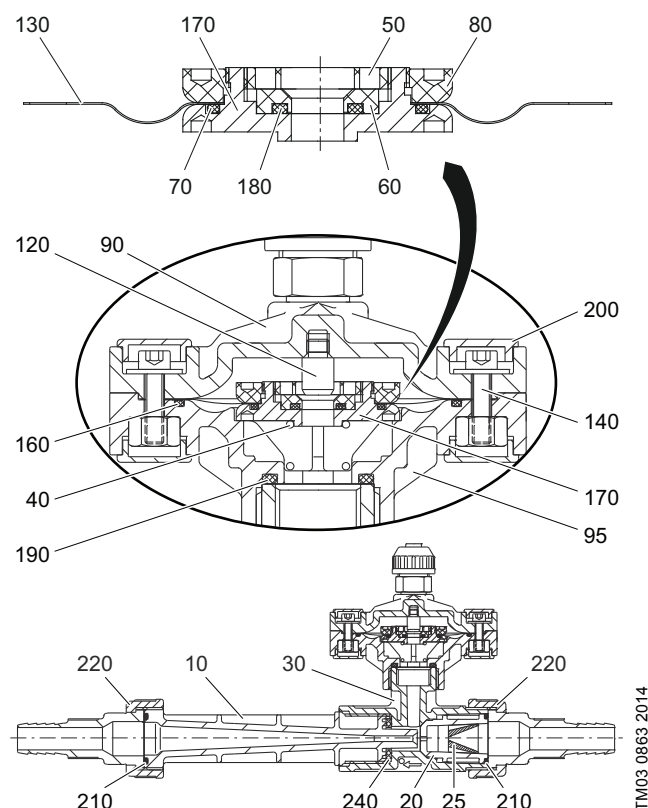
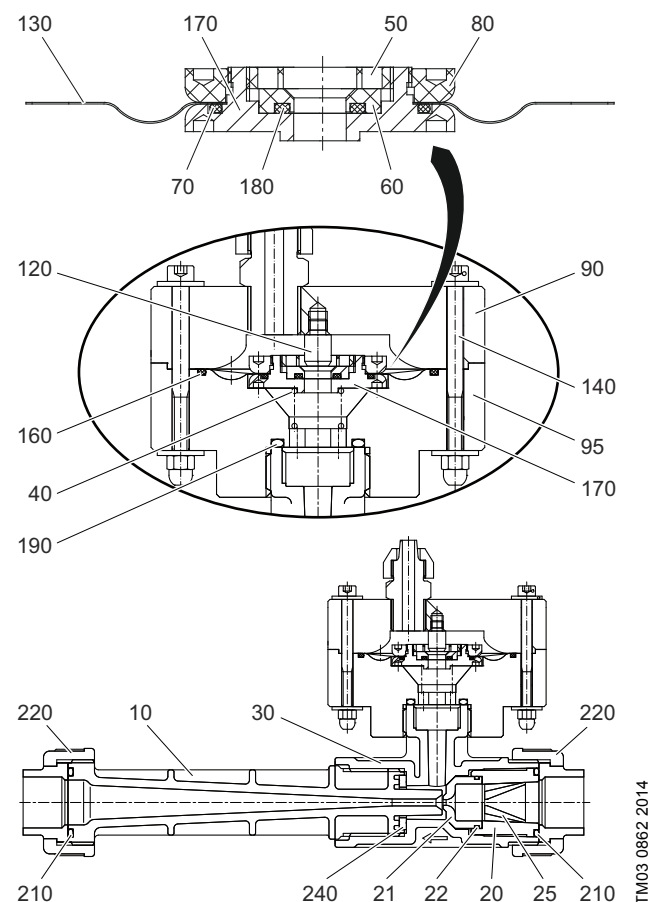

Fig. 6 Sectional drawing
Fig. 7 Sectional drawing
The following steps refer to figs. 6 and 7. For injectors with counterpressure range 0 to 7 bar see fig. 6, for injectors with counterpressure range 7 to 10 bar see fig. 7.
8. Screw in new piston (120) by hand.
9. Replace O-ring (160).
10. Replace O-ring (70).
11. Insert new seat (60) with new O-ring (180).
12. Screw in new screw ring (50) and tighten it carefully with an appropriate face spanner.
13. Fit the new diaphragm (130) at diaphragm disc (170).
- Make sure, that the orientation of the diaphragm is as shown in the respective figure. See fig. 6 or fig. 7.
14. Screw in diaphragm ring (80) and tighten it carefully with an appropriate face spanner.
15. Carefully retighten screw ring (50).
16. Slide diaphragm disc (170) onto piston (120).
- Diaphragm ring (80) must point to top part (90).
- Turn diaphragm disc (170) so that the holes line up with the drill holes in top part (90).
17. Fit new spring (40).
18. Fit top part (90).
19. Fit screws (140) and tighten them diagonally with a torque wrench.